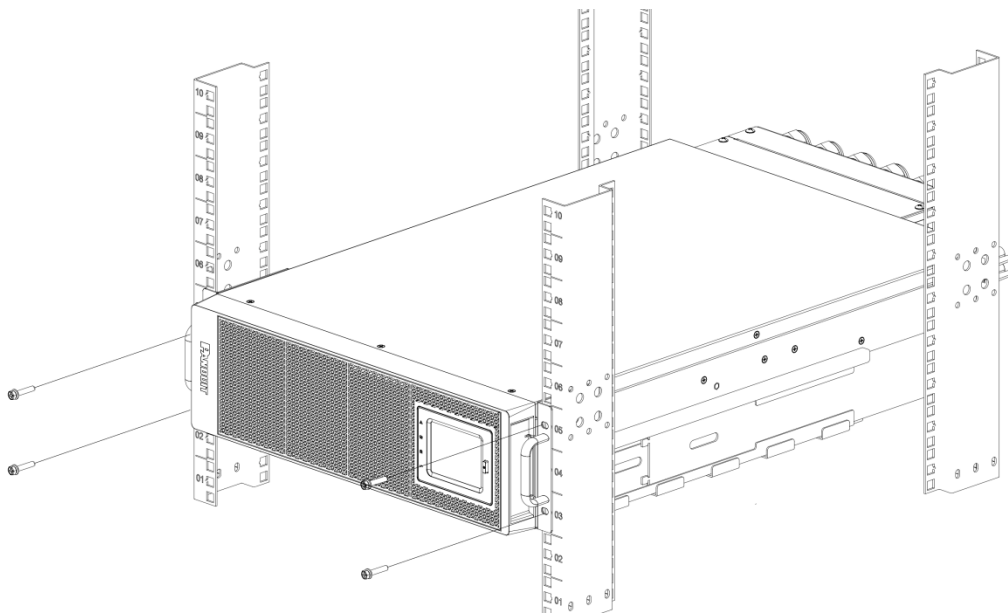

Figure 24: Secure the Mounting Brackets to the Rack
11. Align the mounting brackets with the screw holes on the rack and secure the UPS with the supplied 4x Phillips Hex Head M5 screws (see Figure 24).